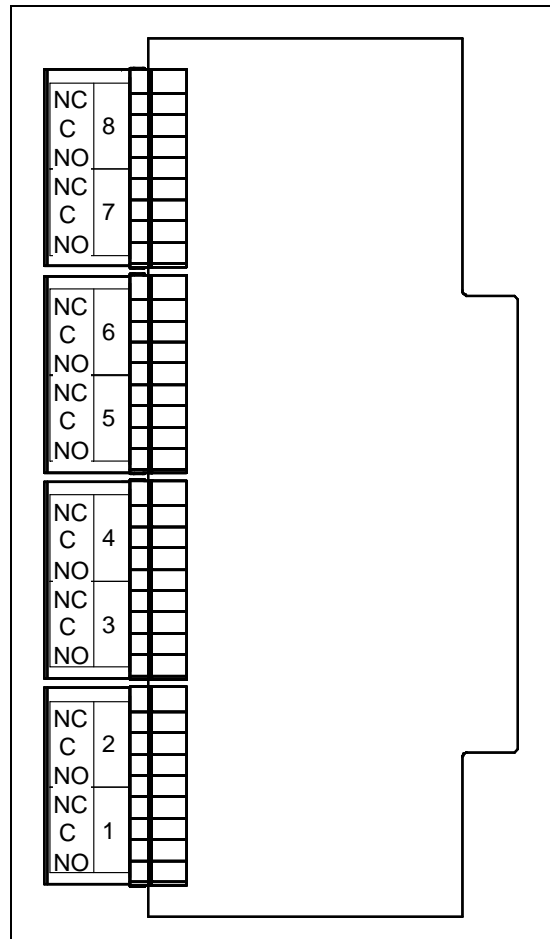

Figure 22: Relay Module Assignment
- Each relay module has 8 relays installed. There is a plug-in terminal strip for each set of relay contacts. They are labeled “1-8” from bottom to top. Refer to Figure 22 for identifying each relay set.
- Locate the applicable alarm terminal strip (see Figure 22 on page 33).